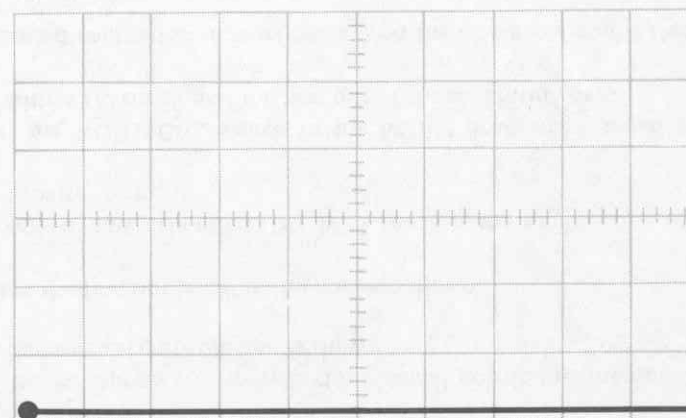

Figure 1-11
- ( ) Adjust circuit board control R84 until the base line just becomes straight and flat. See Figure 1-11. NOTE: If you turn the control any farther than this, the base line may be distorted when you make very sensitive tests on PNP transistors and P channel FET's.